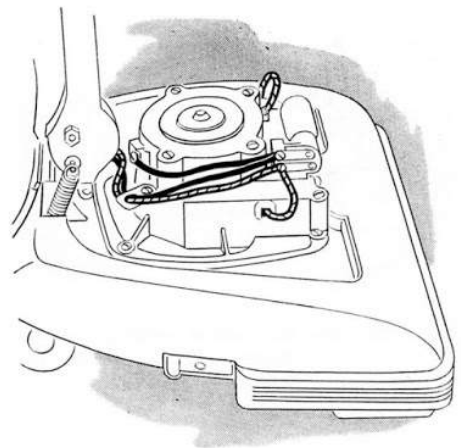

FIG. 137—Motor wiring diagram, Models 60, 61, 62, 63, 64, 29, 634
10. To disconnect **wiring from Models 60, 61, 62, 63, 64, 634 and 29:** Figure 137.